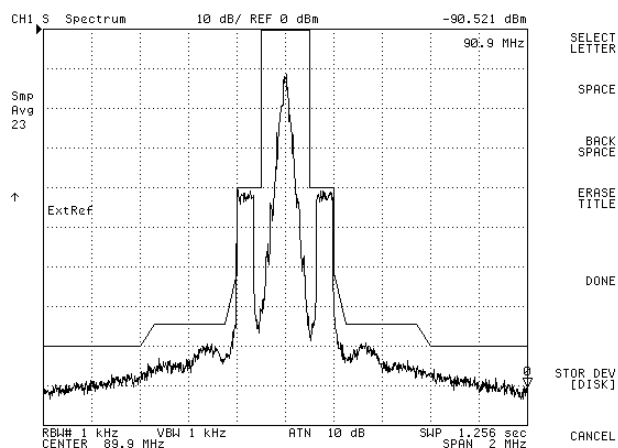

Figure 20 – Typical Properly Aligned FM+HD (Hybrid) Spectrum
Step 7 – Ensure that all carriers and sidebands are below the mask. Verify that all spurs and impulsive noise are > 80 dB down. The Spectrum should look similar to Figure 20 below when properly aligned.